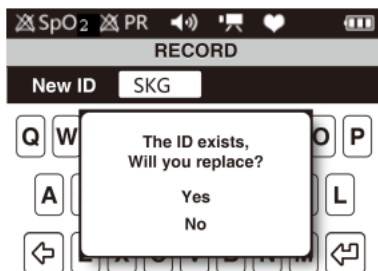

Figure 17. Replace the existed ID dialog box
- c If the inputed ID has existed, the prompt dialog box as figure 17 will appear. Choose "Yes" and click menu button to replace the existed ID, at the same time begin to record and return to the measure interface; choose "No" to return the "Input ID" interface.